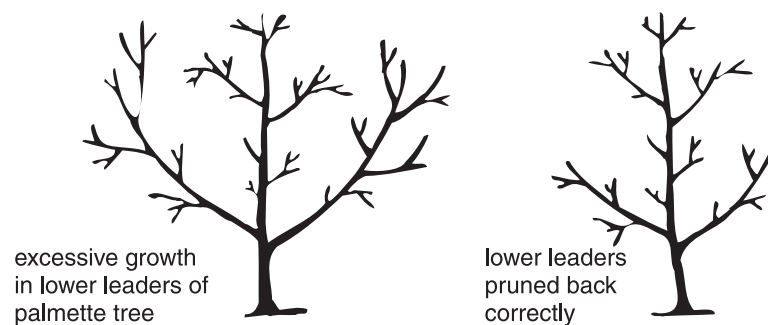

Figure 19. Pruning lower leaders in palmette trees
- In palmette trees, prune the lower leaders back if they are too vigorous (Figure 19).